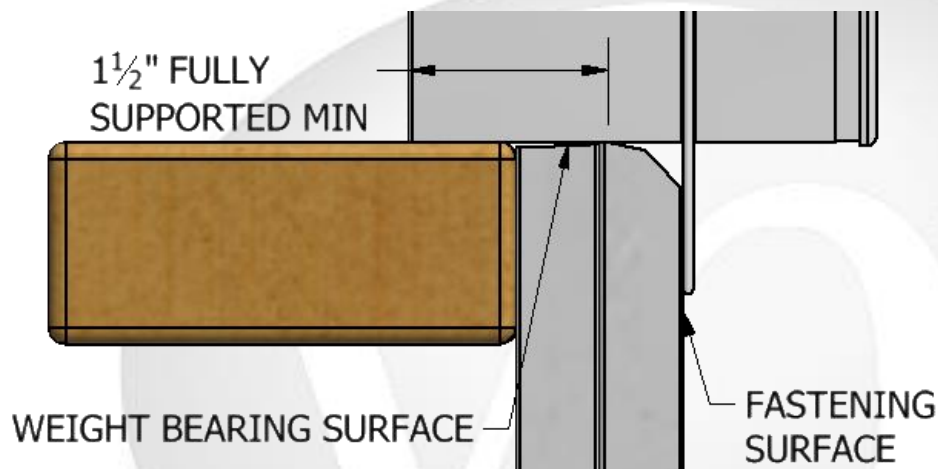

Figure 3 Acceptable Condition (minimum supported area)
- b) Window's sill must be fully supported for 1 1/2" along the sill's weight bearing surface, starting from the inside edge of the frame. (See Figure 3)